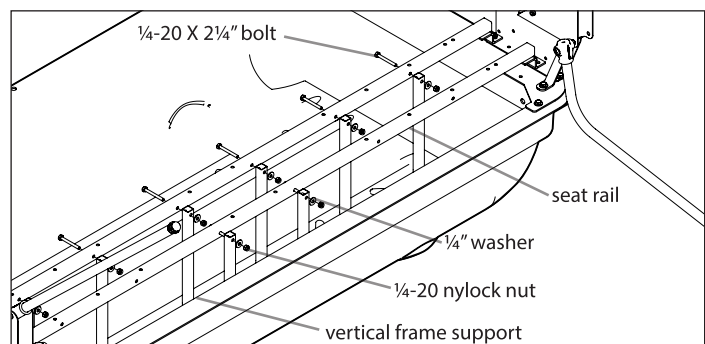

FIGURE 4
7. Attach the (4) vertical frame supports (11305) by locating the correct holes in the seat rail (14818) that are called out in Figure 4. Using (8) ¼-20 x 2¼" bolts, (16) ¼" washers and (8) ¼-20 nylock nuts. **SEE FIGURE 4**